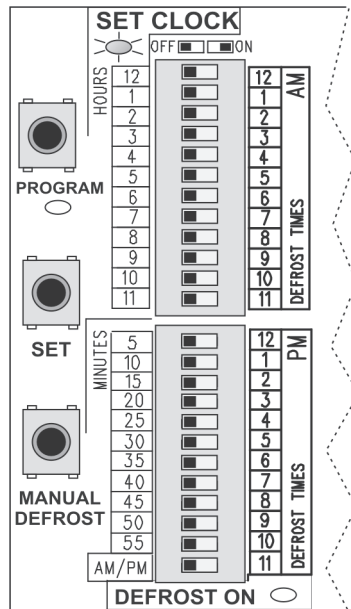

Fig. 9
When the Freezer is connected to the AC electrical power supply, the SET CLOCK light on the Defrost Timer (Fig. 9) blinks rapidly to indicate that the Defrost Timer is in normal Operation Mode.
The Defrost Time Clock is set at the factory to the current time-of-day for Central Standard Time. The Defrost Duration is preset at the factory to run for 25 minutes. Also, the Defrost Schedule is preset at the factory to start a defrost cycle four times each day, at 2 AM, 8 AM, 2 PM and 8 PM. The factory preset defrost schedule is active during normal Operation Mode if all 24 switches are OFF. Switches are OFF when tabs are positioned to the left (Fig. 9).
Before programming, if the initial switch settings are not all off (Fig. 9), make a record of the current switch settings on a piece of paper; this indicates the current defrost schedule. Then slide all 24 switches to the left or OFF position (Fig. 9).
- Begin with all switches OFF (Fig. 9).